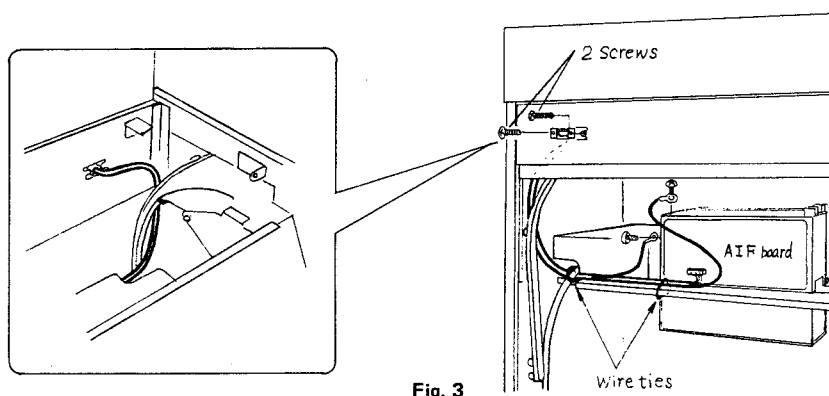

Fig. 3
7. Pass the 16 pin shielded cable assembly with a phono-type pin plug through the opening established when the cover plate is removed (see figure 3). Make sure that the cable passes between the case and the roll-top guide as shown in figure 3. Cable placement is vitally important. Route the cable as shown in the illustration. Make sure that the 16 pin cable assembly is routed behind the existing wire harness as it passes the routed space in the shelf of the organ.
8. Using the two screws retained from step #2, attach the socket mounting bracket to the back as shown in figure 3.